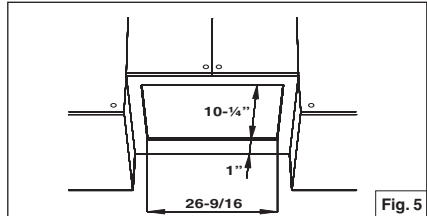

Fig. 5
2. Cut a hole in the bottom of the cabinet, using the dimensions shown (Fig.5 ).